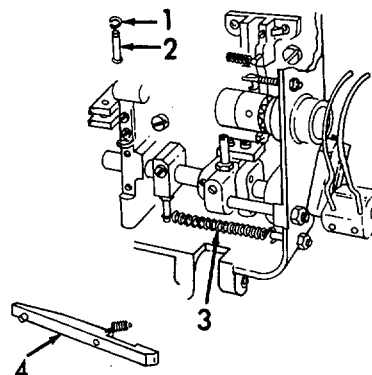

Figure 6-143. Thread Lock Finger, Removal
a. Removal (Refer to Figures 6-143 and 6-144).
- (1) Refer to Figure 6-143. Remove C-washer (1) and pin (2).
- (2) Remove spring (3) and lock finger (4).